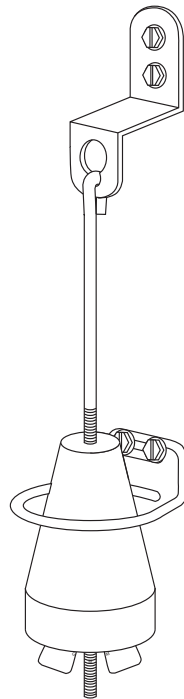

Figure A15. Assembled plumb bob tilt mechanism.
**16)** Locate the plumb bob weight and nylon wing nut in the loose parts. Locate the plumb bob tilt hanger wire and contact brackets, mounted on the inside, left sidewall of the lower cabinet. Slide the weight onto the straight end of the hanger wire and thread the wing nut onto the shaft underneath it (figure A15). Raising the weight higher up the hanger wire (by tightening the wing nut underneath it) makes the tilt mechanism more sensitive; lowering the weight makes it less sensitive.